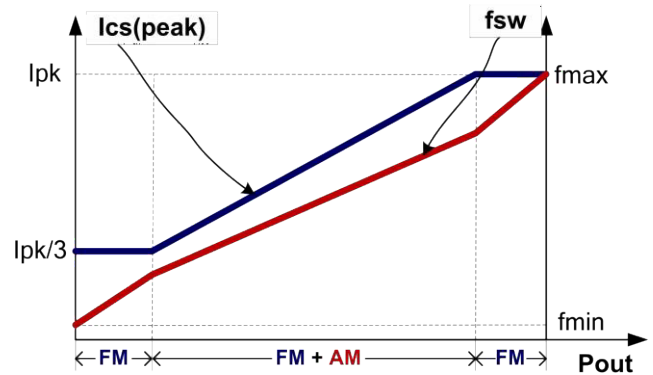

Fig.4
To meet the tight requirement of averaged system efficiency and no load power consumption, a hybrid of frequency modulation (FM) and amplitude modulation (AM) is adopted in ZS302X which is shown in the Fig 4.